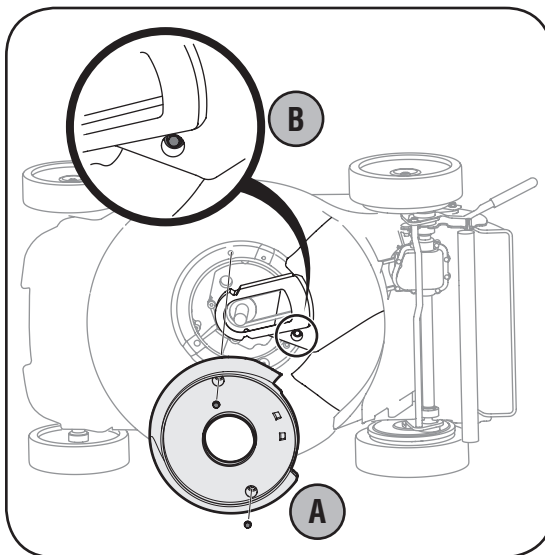

Figure 5-4: A. Remove the screws that hold the engine baffle onto the deck. B. Loosen the screw that holds deck baffle onto deck.
- a. Remove the self-tapping screws that secures the engine baffle to the deck. See Figure 5-4. Remove engine baffle.
- b. Loosen self-tapping screw that secures deck baffle to the deck. See Figure 5-4.